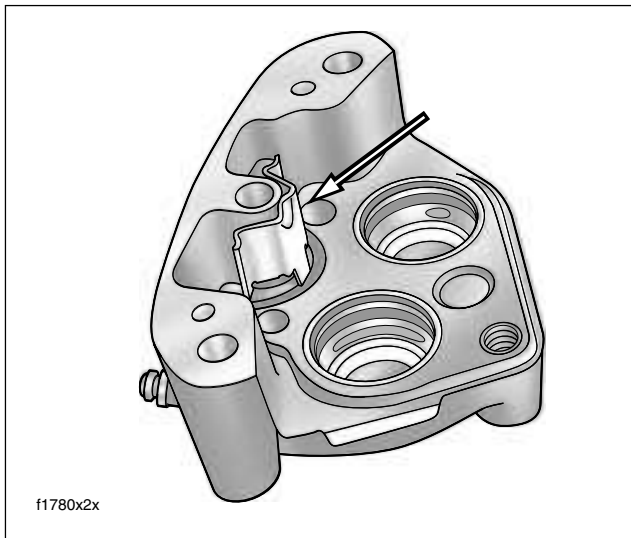

Figure 2-63. Install Anti-Rattle Spring
- b. Place outside caliper housing on workbench with decal side down. Place anti-rattle spring in channel around boss. Spring is not directional. See Figure 2-63.
If pad pins do not fit, verify the following: (1) Proper pad set is being used, not two identical pads. (2) Anti-rattle spring is installed as shown in Figure 2-63. (3) Pads are pushed tight against anti-rattle spring.